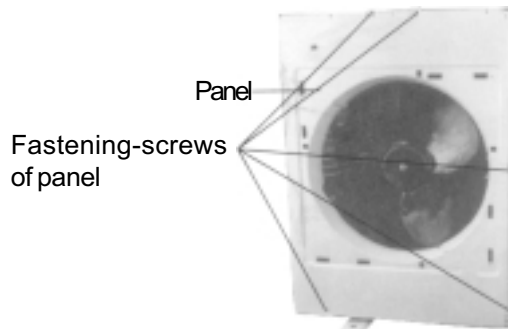

Figure 47
- ⑪ Disassemble the panel.
- Unscrew the fastening-screws of the panel (7), and remove the panel as shown in figure 47.